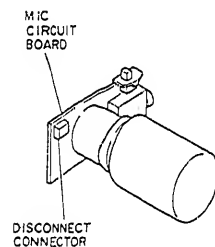

Fig. 2-155
2. Disconnect connector CN401 on the MIC circuit board. (See Fig. 2-155)